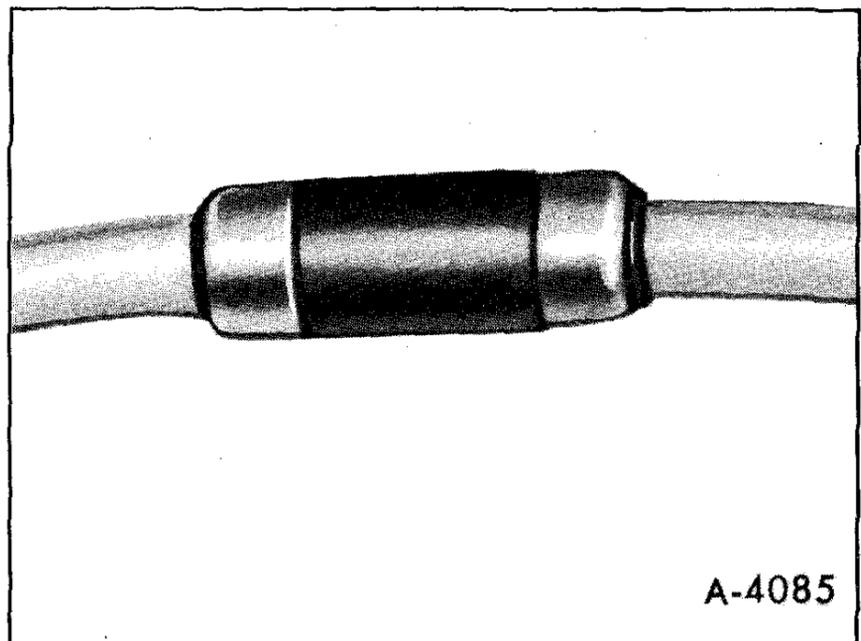

Figure 16—Air Line Repair Coupling
4. Air line leaks can be repaired with the coupling illustrated in figure 16.